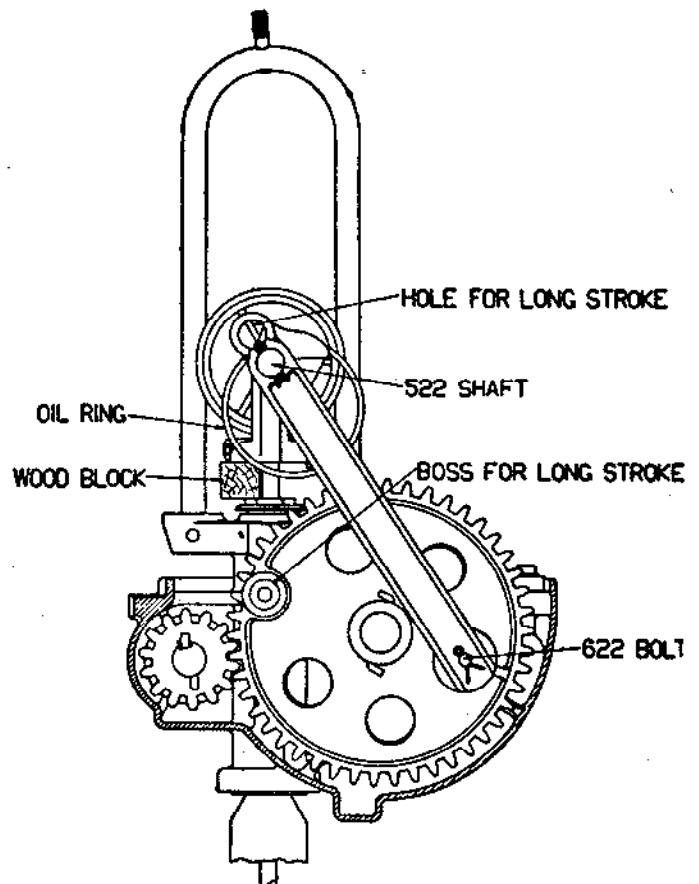

FIGURE 17
6. Turn gears until pitmen are near bottom of stroke, as in Figure 17.